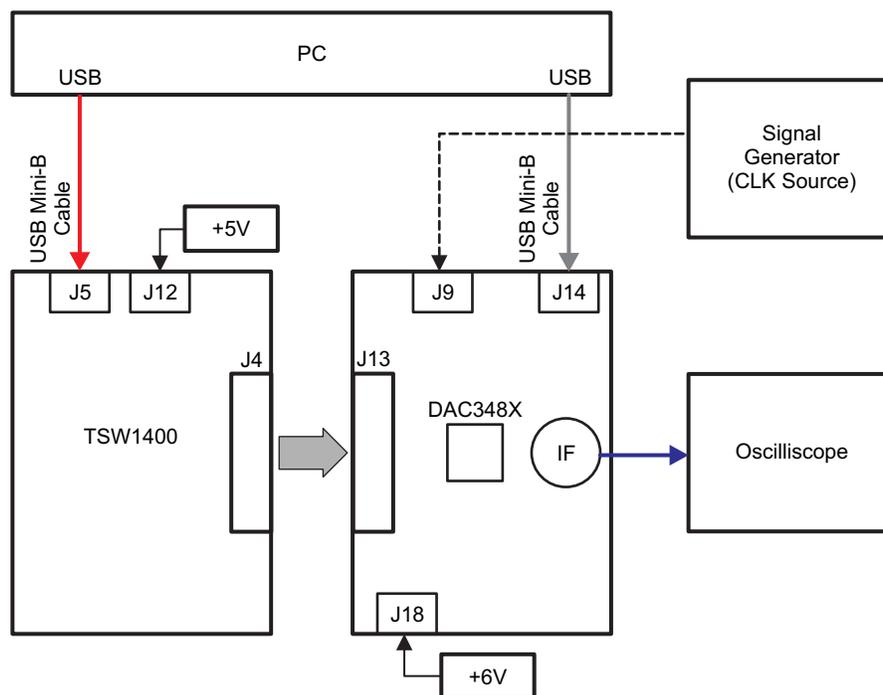

Figure 2. Test Setup Block Diagram for TSW1400 and DAC348x Family
2. Use High Speed Data Capture and Pattern Generation Platform TSW1400 to generate a single tone signal and load the signal pattern to the DAC. The test setup block diagram is shown in Figure 2.